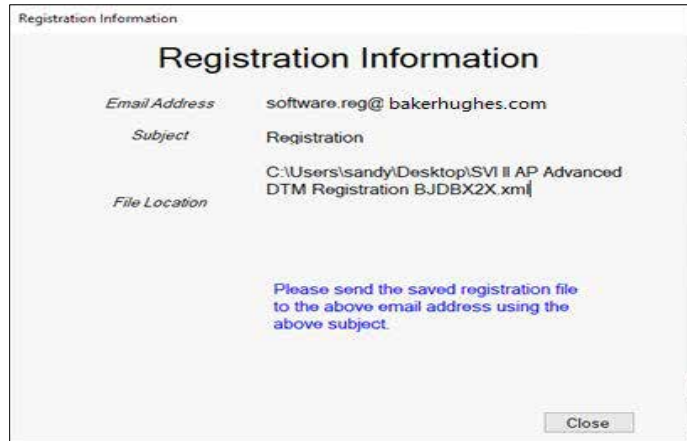

Figure 10 Registration File and Information
1. Browse to the desired folder (or make a folder), click **OK** and Figure 10 appears.